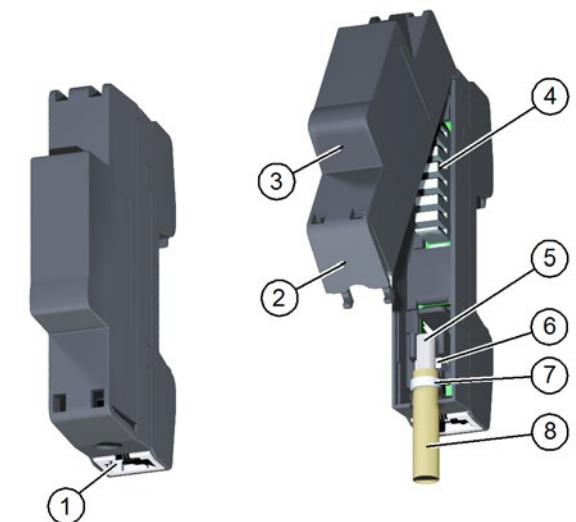

Fig. 3: Connect PAT100 modules with patch cable or CAT cable
- ▶ Please observe that the PAT module is always oriented with the RJ45 socket (item 1 in Fig. 3) or CAT cable (item 8 in Fig. 3) facing down.
- ▶ Plug the patch cable connectors into the appropriate RJ-45 sockets (item 1 in Fig. 3) on the two PAT100 modules.
- ▶ Press the tab (item 2 in Fig. 3) on the underside of the cover (item 3 in Fig. 3) up slightly. Swivel the cover up and lift it out.
- ▶ Use the punch-down tool to punch the conductors of the CAT cable (item 8 in Fig. 3) onto the LSA terminals (item 4 in Fig. 3).
- ▶ Make sure that the shielding (item 5 in Fig. 3) of the CAT cable reaches the GND contact (item 6 in Fig. 3).
- ▶ Fix the CAT cable with a cable tie (item 7 in Fig. 3) and replace the cover.